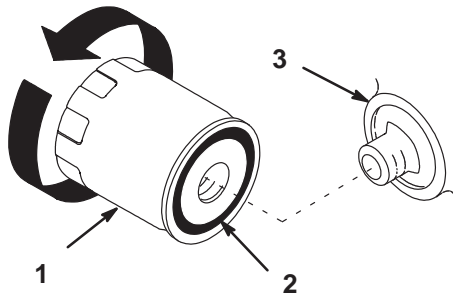

Figure 34
2. Remove the old filter and wipe the filter adapter (Fig. 34) gasket surface.
4. Apply a thin coat of new oil to the rubber gasket on the replacement filter (Fig. 34).
5. Install the replacement oil filter to the filter adapter. Turn the oil filter clockwise until the rubber gasket contacts the filter adapter; then tighten the filter an additional 1/2 turn (Fig. 34).